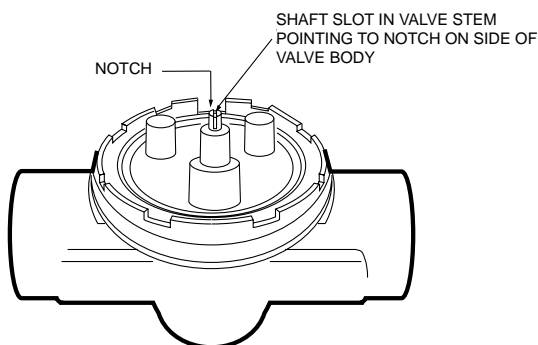

Fig. 6 Slot position.
2. Place the valve on the pipe. **Rotate valve stem** so that the shaft slot points at the notch in the side of the body (90° to flow directions.) See Fig. 6. This protects the plug inside the valve by removing it from the seat.